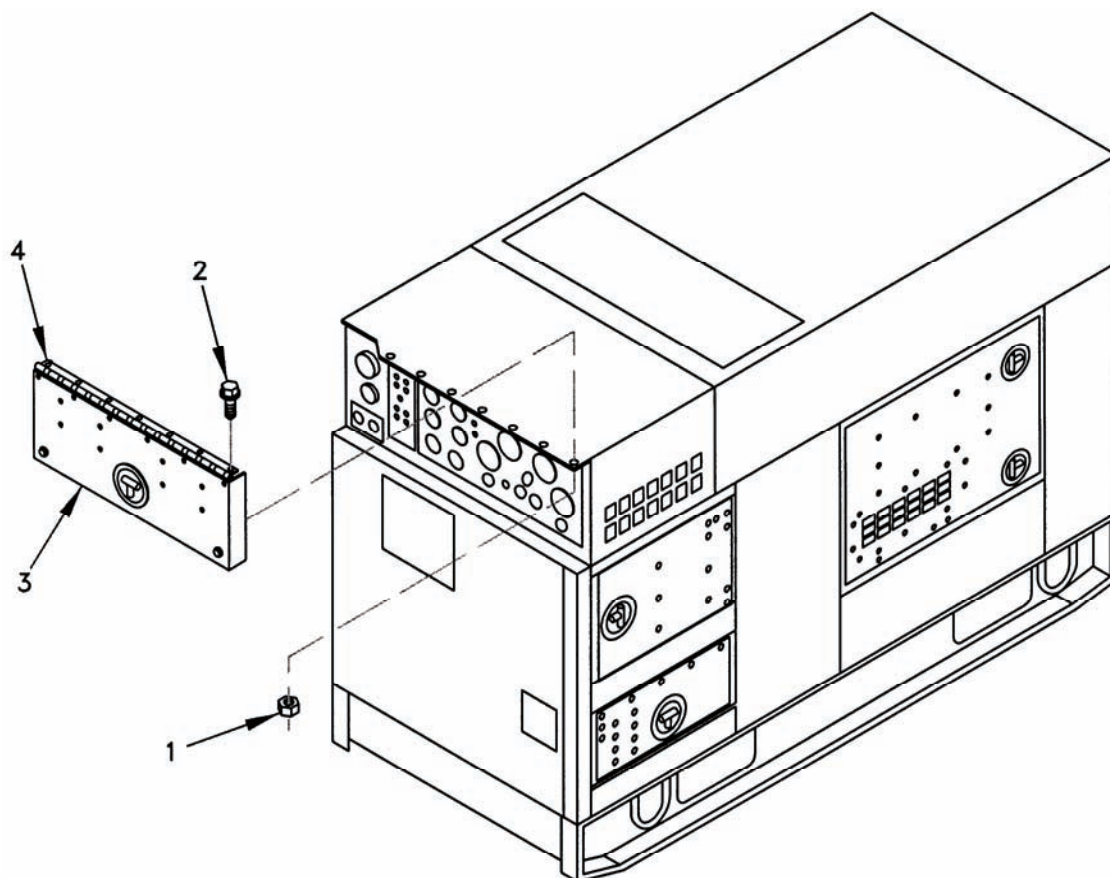

Figure 5-2. Control Panel Access Door.
- b. Remove seven nuts (1, Figure 5-2), screws (2), control panel access door (3), and hinge (4).